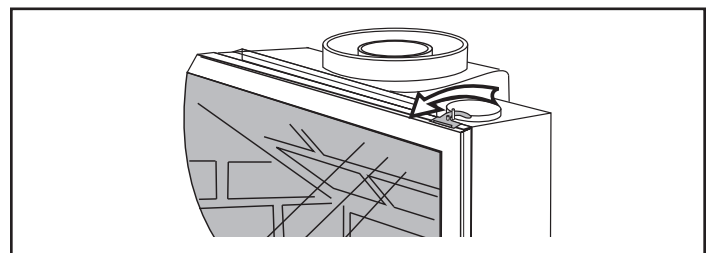

Figure 7.1 - Release the latches to release the glass frame.
Replace glass only with HHT approved parts. Refer to Section 9 "Service Parts List" for correct glass. Remove the front, glass frame and glass panel, Figures 7.1 & 7.2. Use a razor blade to separate the glass and gasket from the frame.
1. Remove the Front, Glass Frame and Glass Panel. (Figures 7.1 & 7.2) Remove the old gasket. Use a razor blade to separate the glass and gasket from the frame, and to clean the glass of any remaining cement or bits of gasket. Use a cold chisel if necessary.